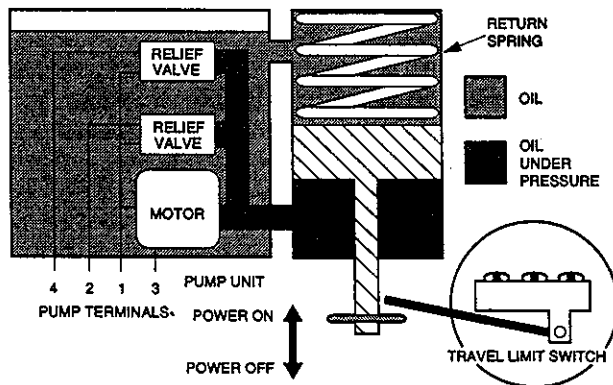

Figure 2. Typical H30 Operation
- Do not connect additional wiring to travel limit switch (see Figure 2).
The integral SPDT auxiliary switch is nonadjustable and actuates at end of actuator energized stroke. See Figure 2 for switch location and function.